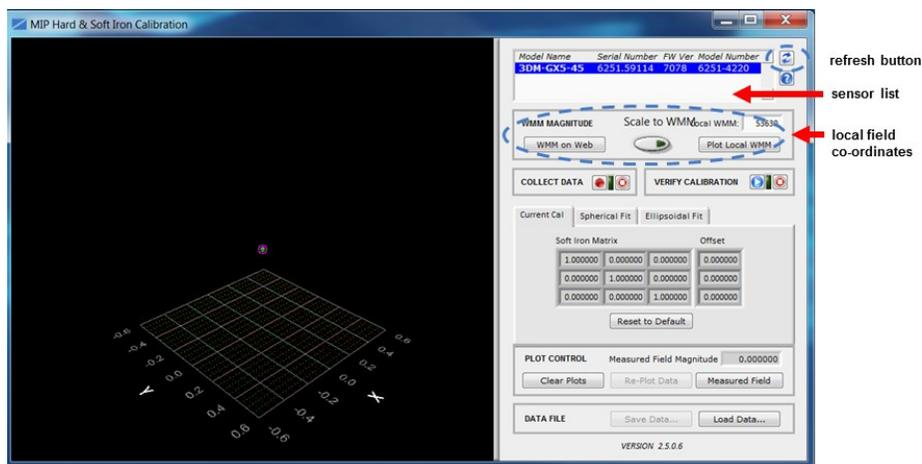

Figure 26 -Sensor Menu
- 3 The sensor should automatically appear in the sensor list. If not, use the Refresh button to query it and then select the sensor (*Figure 26 - Sensor Menu* ).